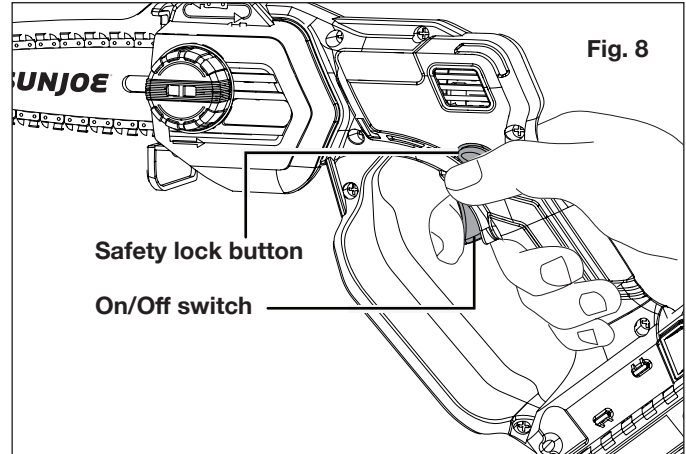

Fig. 8
3. To turn the tool on, hold the pruning saw firmly on the handle grip. Press the safety lock button, and squeeze the ON/Off switch. When the pruning saw is running, you can release the safety lock button (Fig. 8).